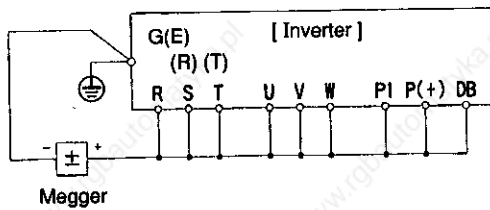

Fig.12-4-1 Megger test
(1) Main circuit
- ① Use a DC 250V megger for 200V series and a DC 500V megger for 400V series Inverters. If 200V series Inverters are tested using a DC 500V megger, accurate measurements may not be possible due to leakage current as a result of voltage characteristics of built-in surge absorber at the main circuit power supply (Input).
- ② Disconnect all wires that are connected to terminal board of the main and control circuits and to external circuits.
- ③ Connect main circuit terminals R, S, T (R,T), P1, P(+), DB, U, V and W with a common wire as shown in Fig. 12-4-1.
- ④ Carry out the megger test between the main circuit common wire and the ground (ground terminal G(E) only.)
- ⑤ The condition is normal if the megger shows a resistance of 5MΩ or more.